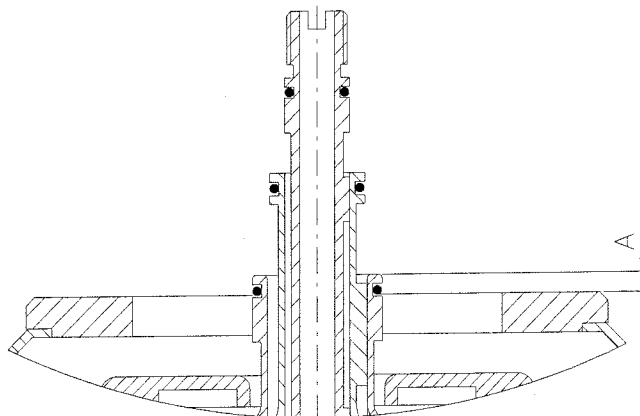

Figure 6.13
To find "A" push down the heavy phase pump (5) to the bottom of the corresponding bowl chamber. The distance (measured in mm) between the cover upper edge and the pump give the value of "A" (fig. 6.13). Extract all existing spacers before doing this measure.